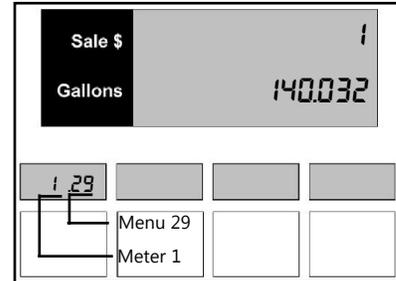

Figure 29.1 – Total Volume Amount
1. Press the number **2** and **9**, then the **Mode** button on the keypad. The main display shows the total volume amount. For example, if the total volume amount for the dispenser were 1,140.032 gallons, the display would appear as in *Figure 29.1*.